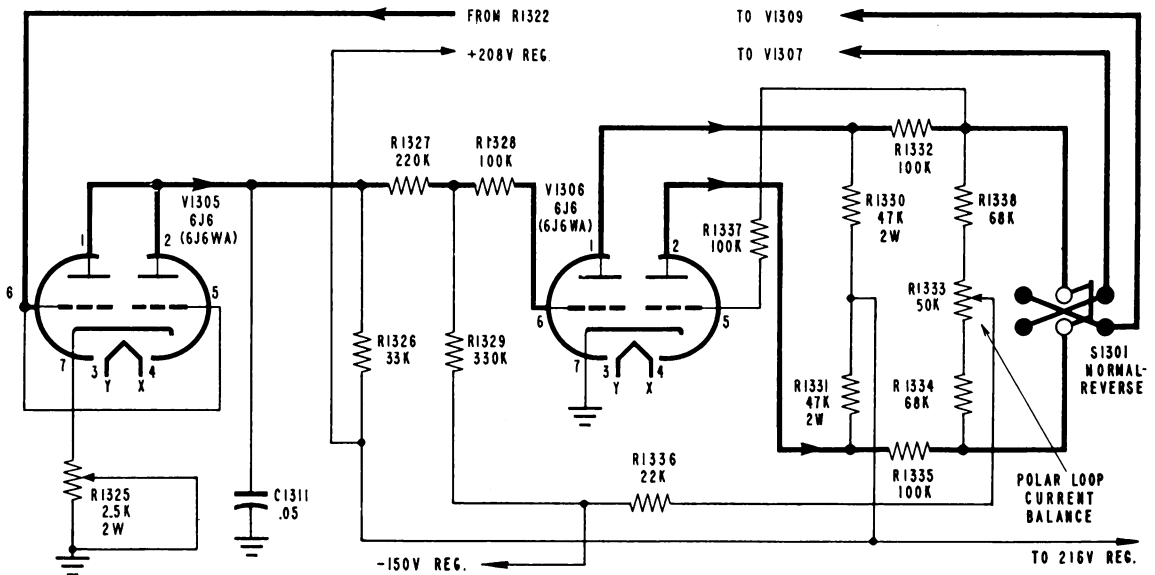

Figure 2-12. Schematic Diagram of DC Amplifier and Inverter Circuits
e. DC AMPLIFIER AND INVERTER CIRCUITS. - (See figure 2-12.) The DC amplifier and inverter circuit amplifies the output of the discriminator and squares the wave shape to push-pull form. This square wave output is used to drive the keying tubes. As shown by figure 2-12 the output of the discriminator circuit is applied to the grid of the 6J6 type tube V1305. This stage has a 100 ohm resistor R1322 in the grid circuit to suppress radio frequency oscillation and a 33,000 ohm resistor R1326 for the plate load. The 2500 ohm potentiometer R1325 provides self-bias for V1305 and is adjusted for average loop current with the grid of V1305 disconnected from the discriminator circuit. The grid is disconnected from the discriminator circuit by placing the DIVERSITY switch in position 1. The 0.05 mf capacitor C1311, is used to filter carrier signal ripple present